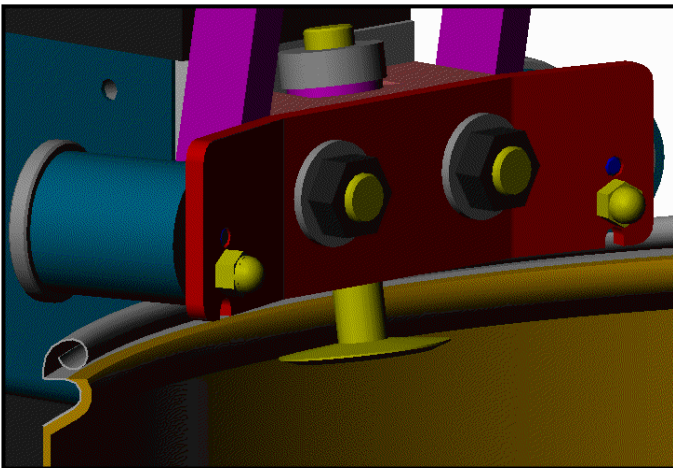

Figure 3: Second Cut, Bottom of Drum & Only Cut, Top of Drum.
2. Place the unit on the drum (the cutting wheel should be in its lowest position, under the chime indentation). Tighten the T-bar handle until the cutter wheel bottoms out against the carrier (see figure 3).
1. With the chime rollers still in their highest position, open the T-bar handle and place the unit on the drum (the cutter wheel should be just under the indentation (see figure 3)).